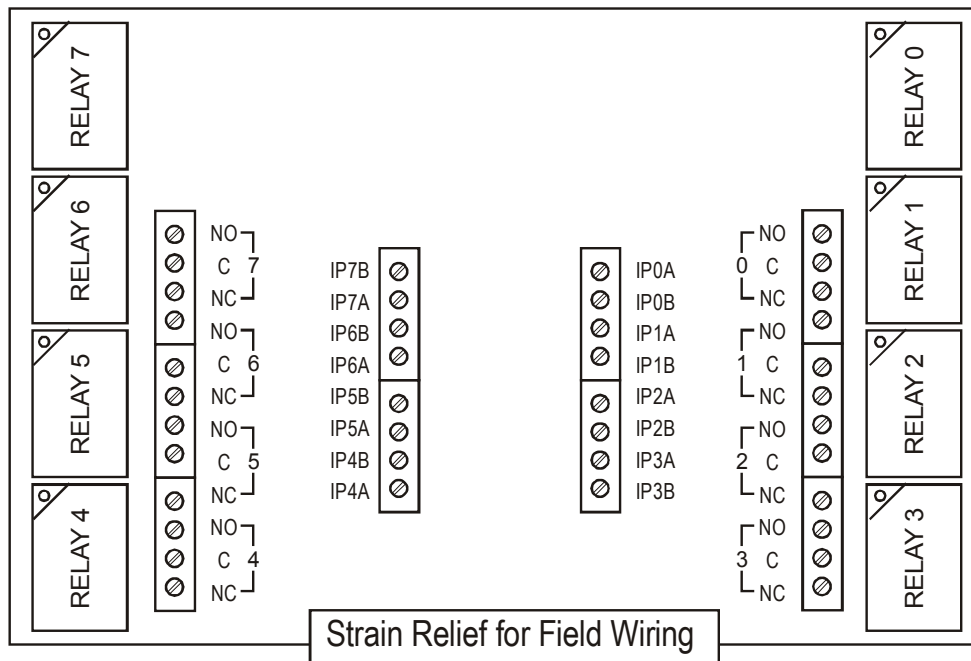

Figure 3-2. Switch & Sense 8/8 screw terminals and relays
The Switch & Sense 8/8 expands the capabilities of desktop personal computers by providing SPDT relay control and isolated inputs in a plug-and-play package. Screw terminals provide easy field wiring to the three output lines for each of the eight on-board relays (see Figure 3-2 on page 3-2).
The two outer groups of 12 screw terminals shown in Figure 3-2 connect to the normally open (NO), common (C), and normally closed (NC) contacts for relays 0 through 7.